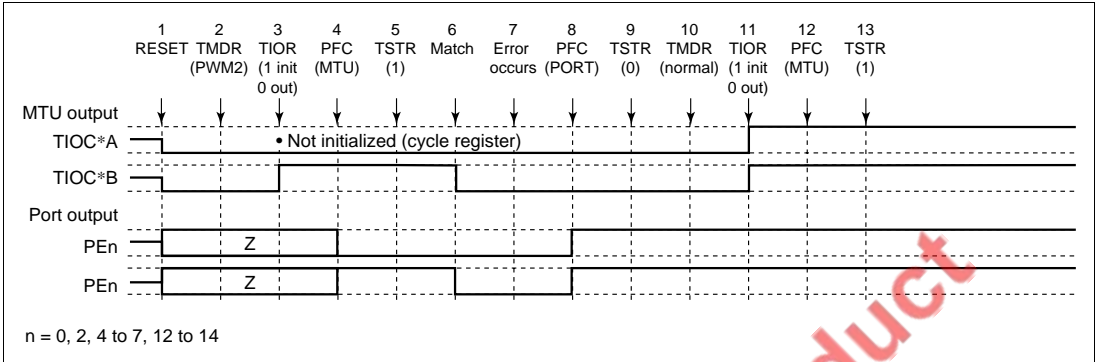

Figure 8.55 Error Occurrence in PWM Mode 2, Recovery in Normal Mode
(7) Operation when Error Occurs during PWM Mode 2 Operation, and Operation is Restarted in Normal Mode: Figure 8.55 shows an explanatory diagram of the case where an error occurs in PWM mode 2 and operation is restarted in normal mode after re-setting.
1 to 9 are the same as in figure 8.55.